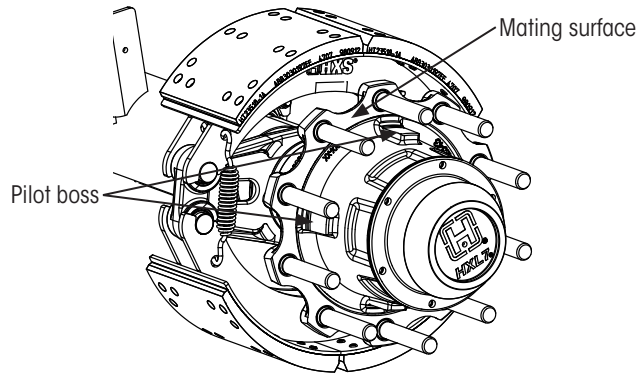

Figure 17: Sample hub piloted wheel-end (Drum brake hub shown)
All Hendrickson hubs are hub piloted (Figure 17). With the hub pilot system, pilot bosses (which are machined into the hub) center the brake drum and wheel around the hub.
2. Rotate hub so a pilot boss (Figure 17) is at the top (12 o'clock) position.